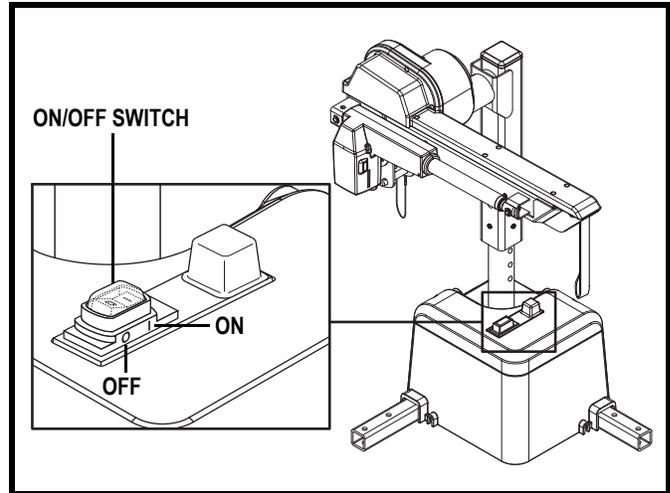

Figure 6. ON/OFF Switch
The lift system is equipped with an ON/OFF switch that enables/disables operation. Toggle the ON/OFF switch to the “I” position to turn the power on; to the “O” position to turn the power off. See figure 6.
NOTE: The ON/OFF switch also functions as the circuit breaker reset button. See figure 6.
- Check the circuit breaker reset button. Reset if necessary. See figure 6.
If your lift system is heavily strained because of excessive loads, the main circuit breaker (see figure 6) may trip to protect the motor and electronics from damage. When the breaker trips, the entire electrical system shuts down.
2. Push in the reset button to reset the breaker. See figure 6.